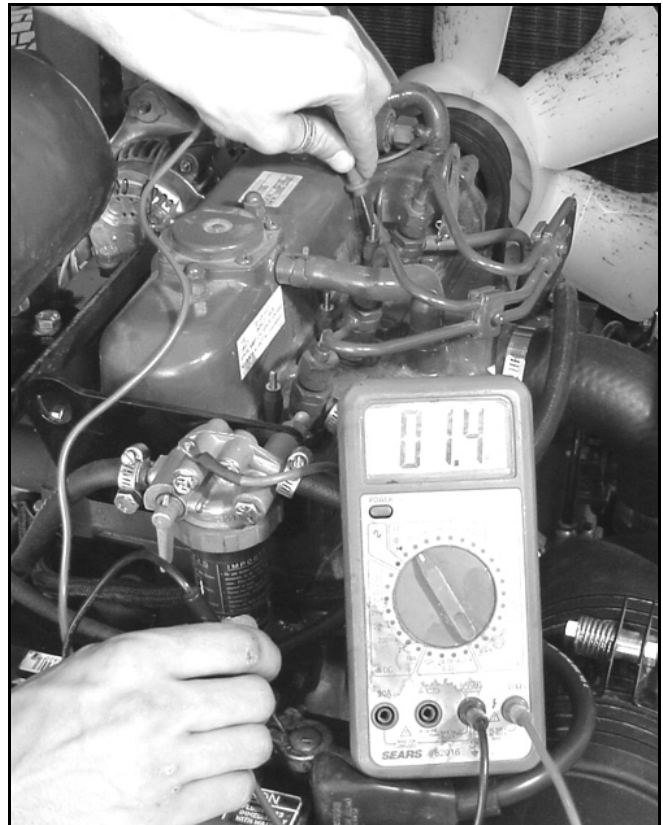

Figure 10M-1. Glow Plug Test
4. Place one test lead to the glow plug connector stud and the other test lead to the base of the glow plug or a good ground (Figure 10M-1).